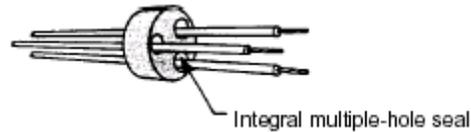

Figure 20-24 Multiple Hole Seal
5. Insert the multiple wires coming from the other direction through the separate seal, one wire per hole, as shown In Figure 20-24.